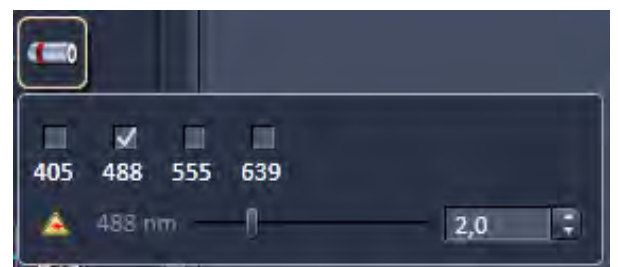

Fig. 99 Laser line and laser power selection
- Click on the laser icon, select the 488 line, and set the transmission slider to about 2 %. Make sure other lasers are not checked (Fig. 99).